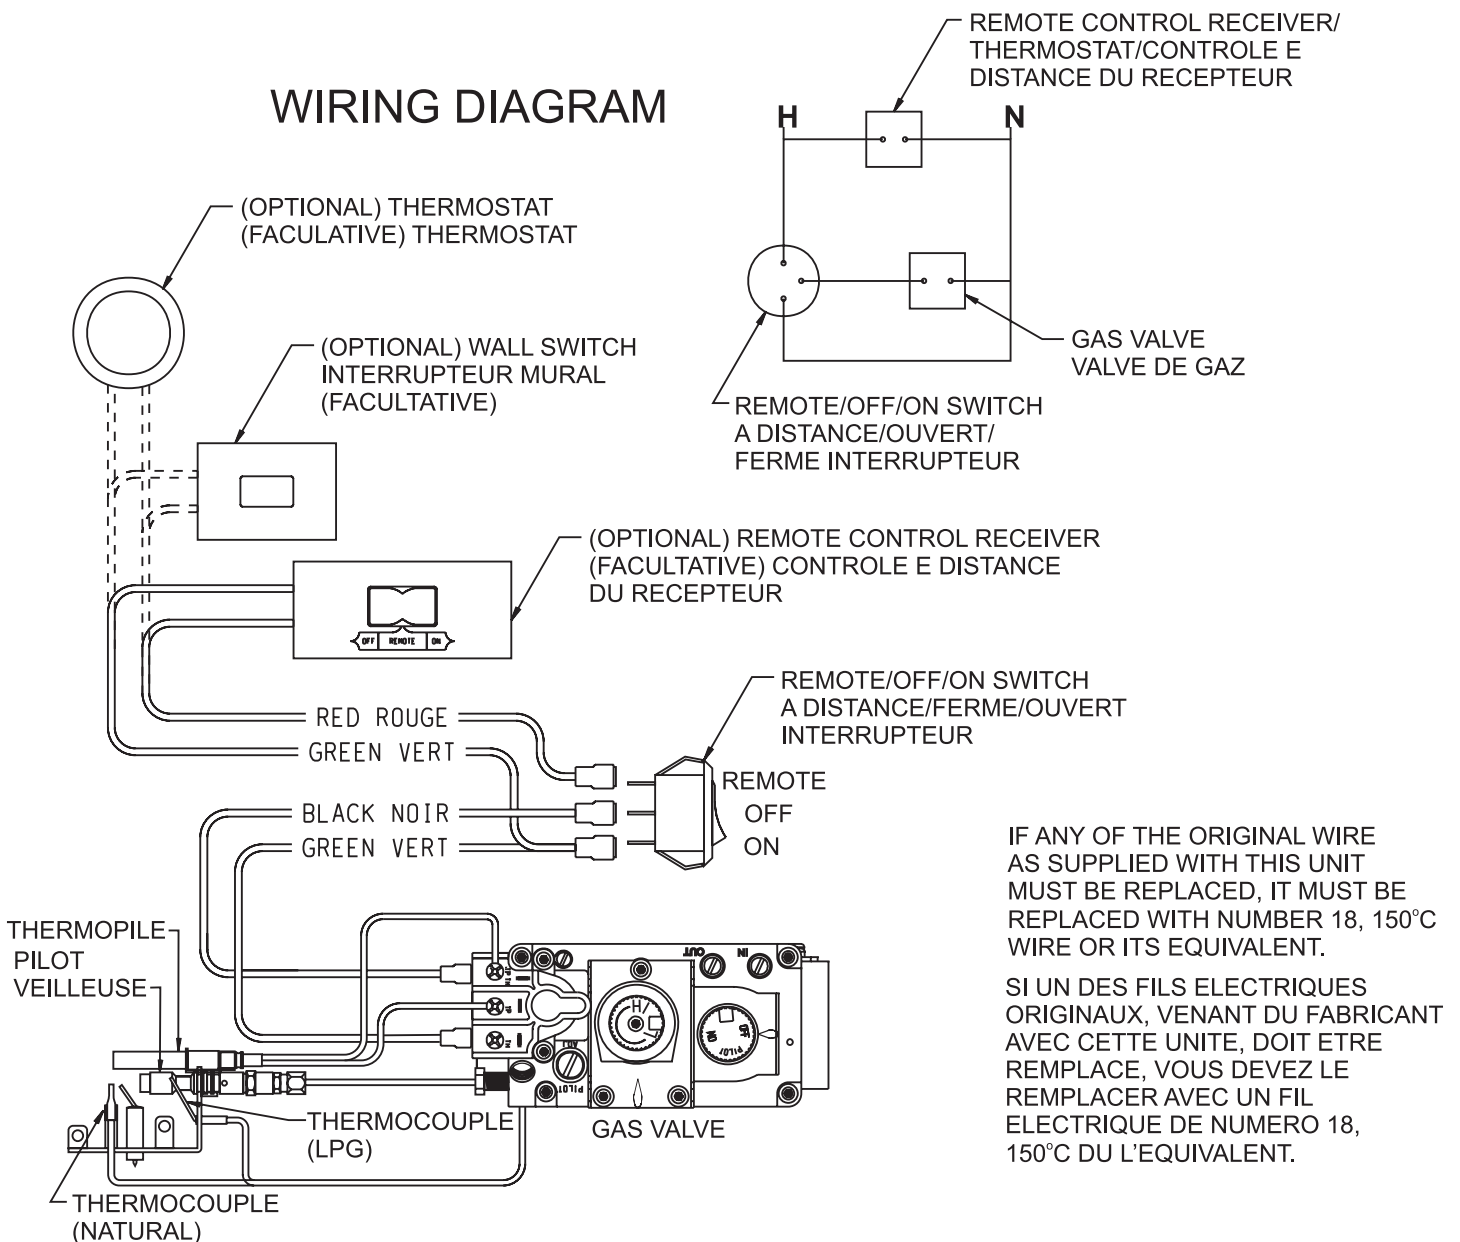

Figure 22
3. To install the Decorative Glass, cut off a corner of the plastic bag and proceed to apply the glass to the rear shelf on the Loft burner (area behind the burner). Apply only enough glass to the Top Cover to cover the black metal surfaces. Do not allow the glass to fall around the burner tube. See Figures 20 to 21. Apply the remaining decorative glass to the front sloped surface of the Top Cover. Start by placing the glass along the front edge of the top cover, then gradually place the glass up the sloped top until completely covered. Do not allow the glass to fall around the burner tube. See Figure 22.